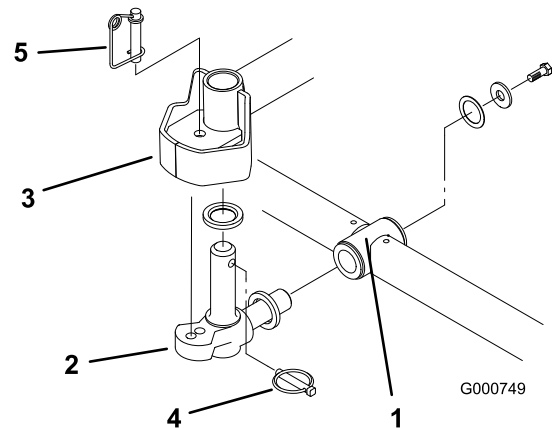

Figure 5
6. Insert a thrust washer onto horizontal shaft of pivot knuckle as shown in (Figure 5).
7. Insert the horizontal shaft of the pivot knuckle into the mounting tube of the carrier frame (Figure 5).
8. Secure pivot knuckle to carrier frame with a thrust washer, flat washer and a flange head capscrew (Figure 5).
9. Insert a thrust washer onto vertical shaft of pivot knuckle (Figure 5).
- If removed, insert the vertical shaft of the pivot knuckle into lift arm pivot hub (Figure 5). Guide the pivot knuckle in place between the two rubber centering bumpers in the under side of the lift arm steering plate.
- Insert the lynch pin into the cross hole on the pivot knuckle shaft (Figure 5).
Note: If fixed cutting unit position is required, insert steering locking pin into pivot knuckle mounting hole (Figure 5).
- Hook spring wire around bottom of steering locking pin (Figure 5).